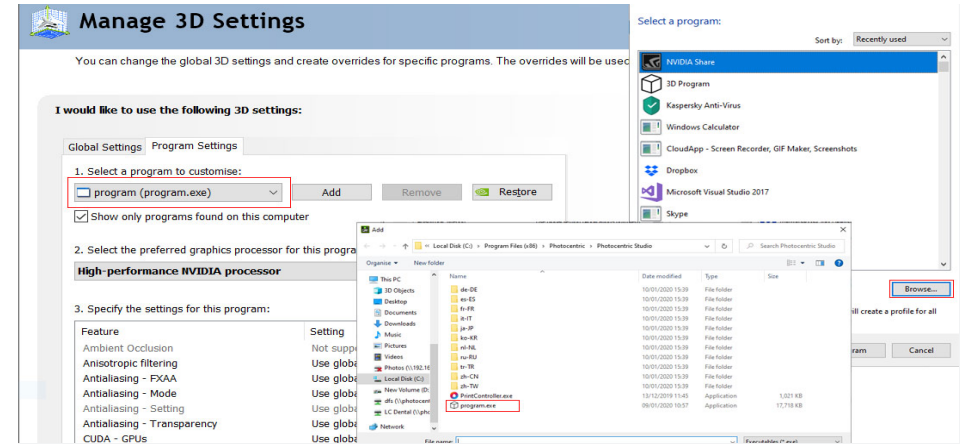

Figure 3
2. Select 'Program Settings', click 'Add' (figure 3).
3. Select 'Local Disk (C), 'Program Files', 'Photocentric', 'Photocentric Studio' then click 'Open' (figure 3).
4. Make sure 'Preferred Graphics Processor' is 'Nvidia Processor' (figure 3).